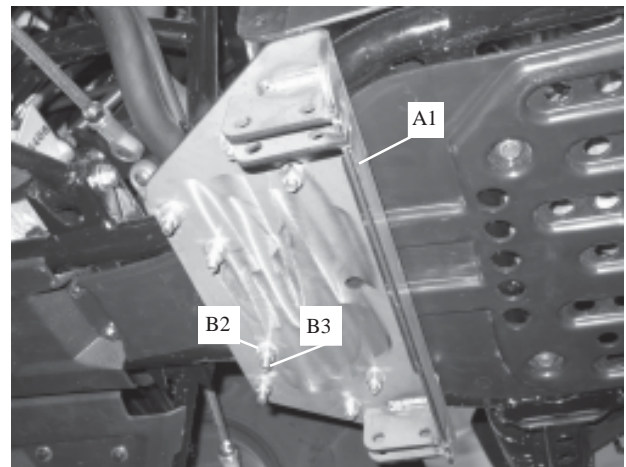

Figure 6
6. Fasten the plow mount to the vehicle with the u-bolts, flat washers (B2) and lock nuts (B3), Figure 6. Align the plow mount with the bike. Trim the skid plate holes if necessary. Tighten the u-bolts to 10lb ft (14 N-m).